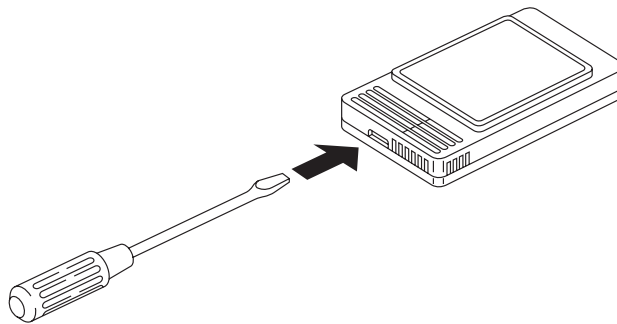

Fig. 3-58
1. Insert a screwdriver or the like in the groove on the lower side of the remote sensor body to pry off the back case. (Fig. 3-58)